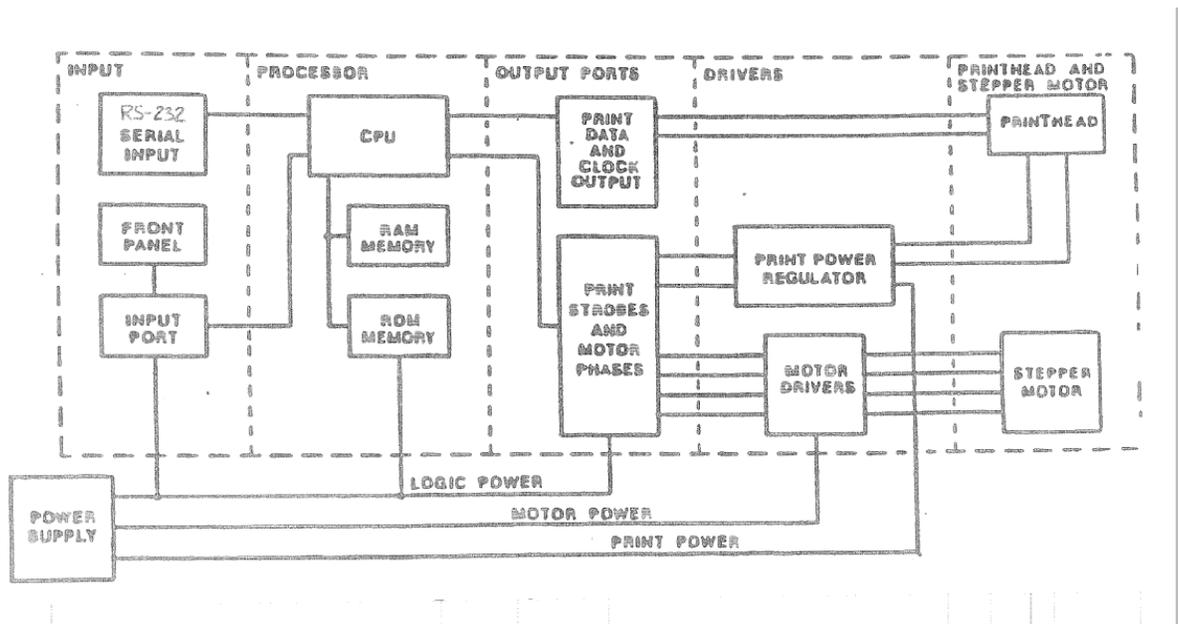

Figure 3. General System Operation
A. General System Operation (Reference Figure 3)
(1) Logic (Reference IPL, Figure 3)